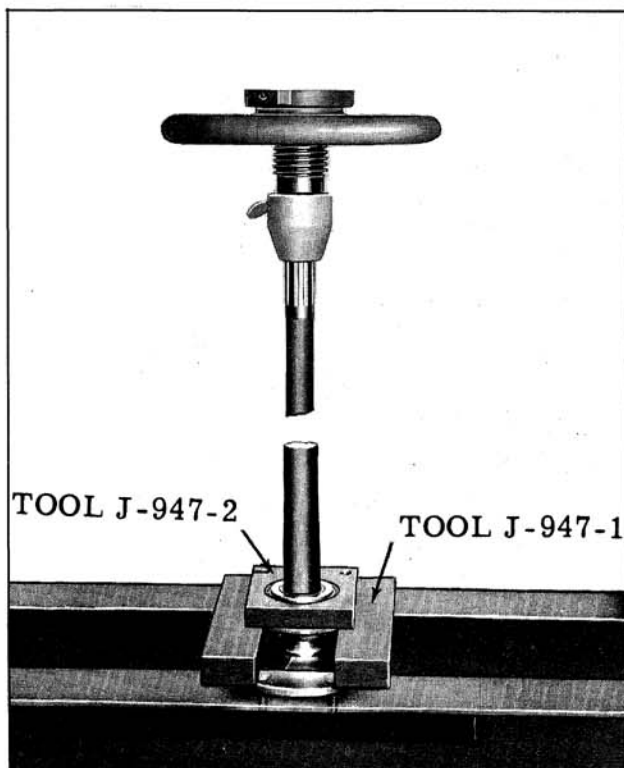

Fig. 10-7 Removing Axle Bearing (54 through 86 Series)
2. Press axle shaft bearing from the axle shaft as shown in Figs. 10-7 or 10-8.